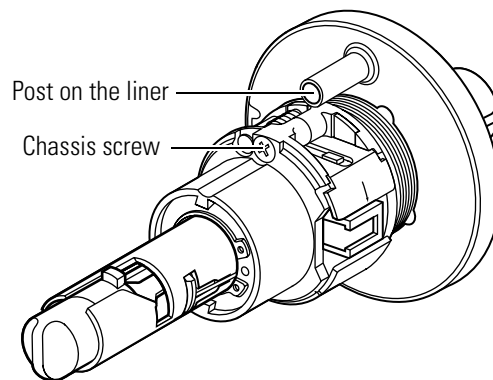

Figure 3.7 Reinstalling the outside rose
- With the rose locking pin still retracted, rotate the rose and liner assembly back off the hub. When the posts on the liner align with the chassis screws, release the rose locking pin into the indent in the liner. See Figure 3.7. The pin should lock into the rose liner.